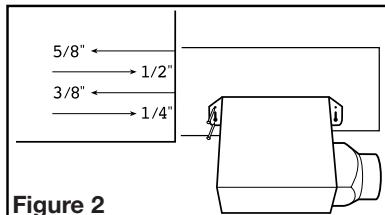
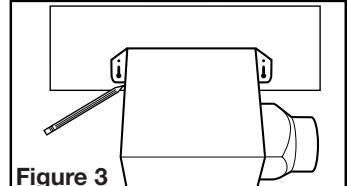

Figure 2
Figure 3
1. Using the gauge on the fan's housing (**Figure 2**), line up housing so that it will be flush with the finished ceiling or wall. Position the fan so that the tabs rest flat against the joist or stud and secure with four nails (not provided) to ensure proper installation.
1. Position housing against the joist or stud and trace an outline of the housing onto the ceiling/wall material (**Figure 3**). Set housing aside and cut opening, being careful not to cut or damage any electrical or other hidden utilities. Place housing next to the joist or stud and insure that it is flush with the finished ceiling. Secure with four nails (not provided) to ensure proper installation (**Figure 2**).